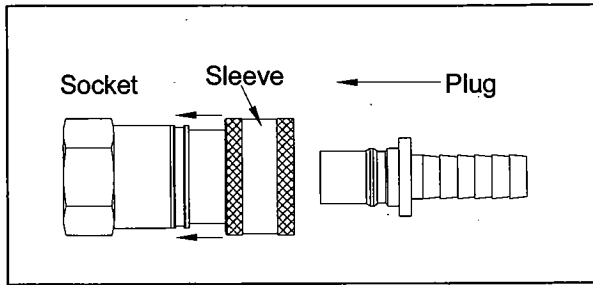

Fig. 39
1. To connect, push back socket sleeve (Fig. 39).